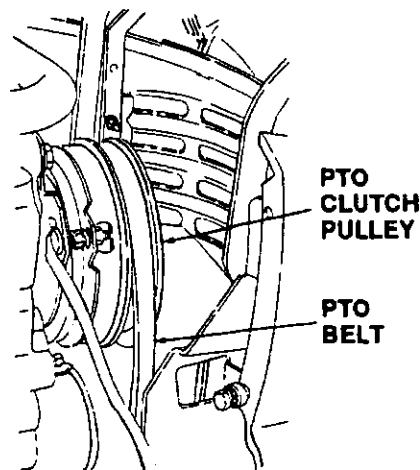

Figure 19
15. Install forward end of the PTO belt on engine PTO clutch pulley by passing the belt upward inside the tractor frame. Ensure that narrow side of PTO belt engages the groove of the pulley. (Refer to Figure 19.)